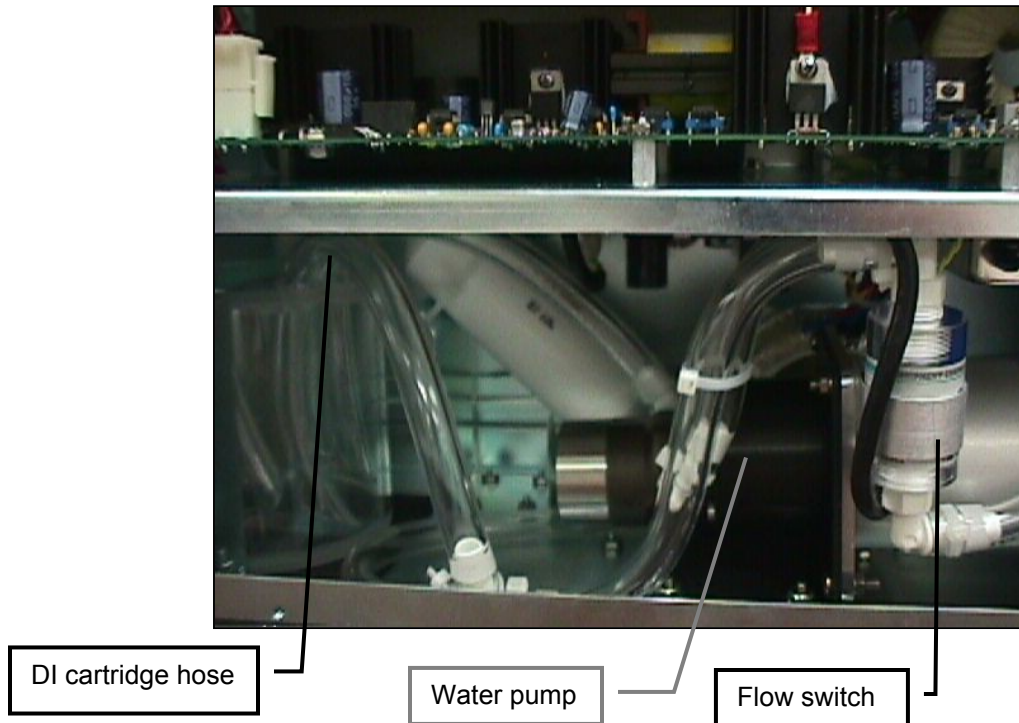

Figure 5-2. Deionization Cartridge and Water Reservoir
- 6) Clamp the water supply hose leading to the deionization cartridge at the T connection, Figure 5-2.